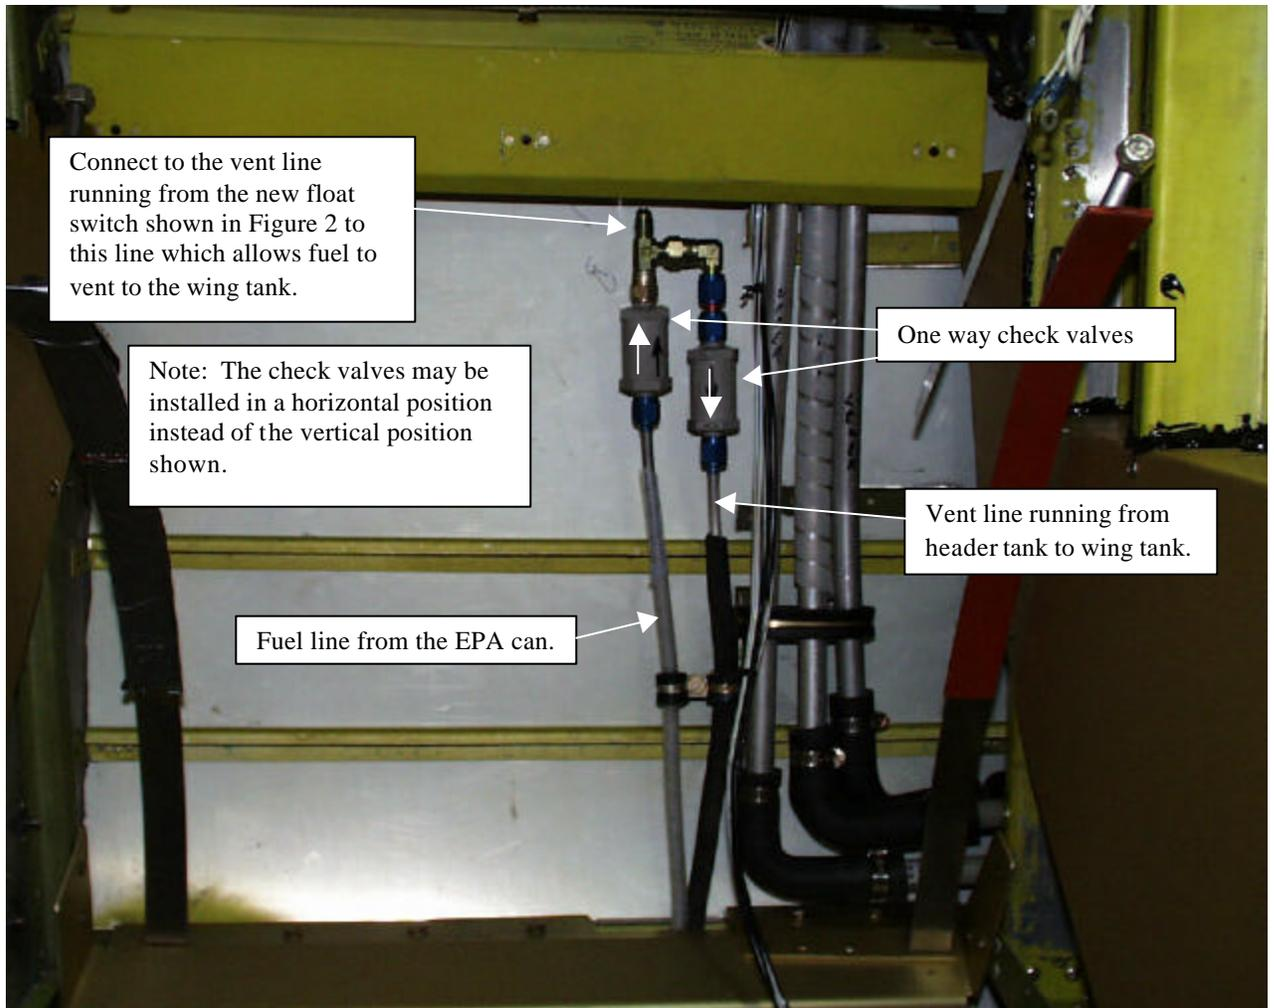

Figure 3 (Mirage)
- h. You will need to fabricate a 1/4" aluminum vent line to go from the fitting on the float switch to the existing vent line shown in Figure 3.